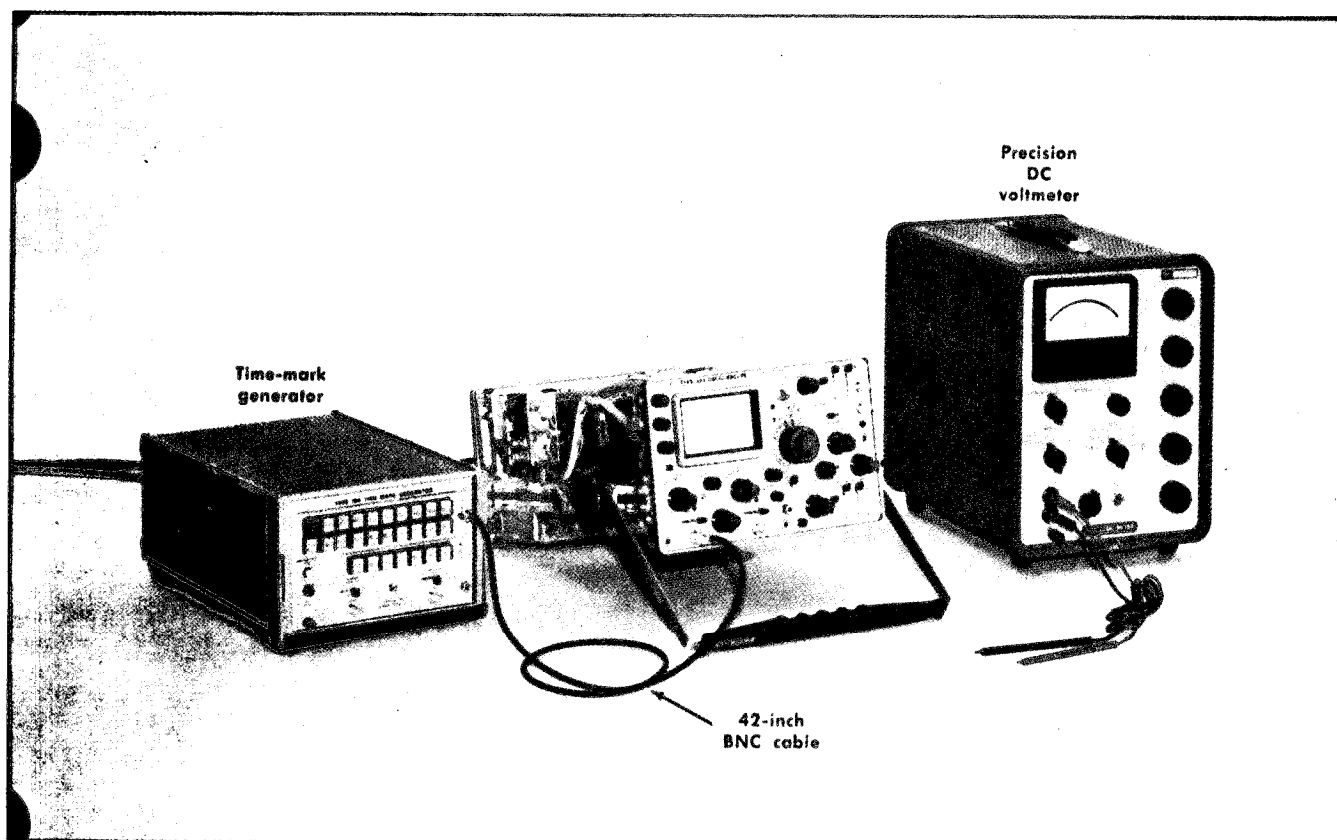

Fig. 6-10. Initial test equipment setup for steps 8 through 12.
①
a. Test equipment setup is shown in Fig. 6-10.